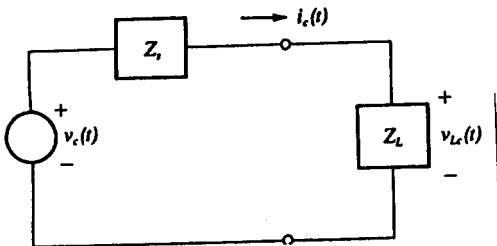

Figure 1.
- Figure 1 shows the circuit with two impedances Z_S and Z_L .